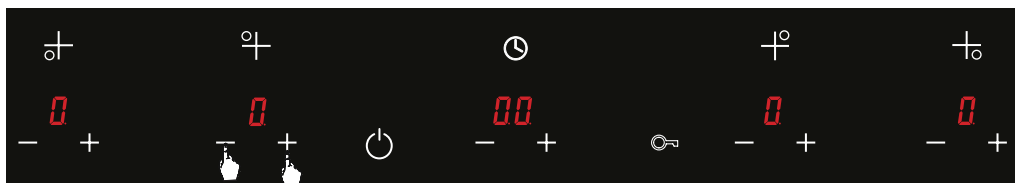

Figure 51
1. Set the temperature level of hob to be set for the timer to the desired level between 1 and 9 using the + and - keys. (See Fig. 51)